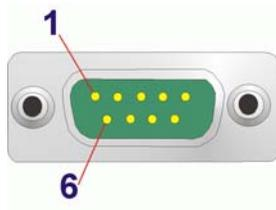

Figure 3-32: Serial Port Pinout Locations
- CN Pinouts:** See **Table 3-33** and **Figure 3-32**